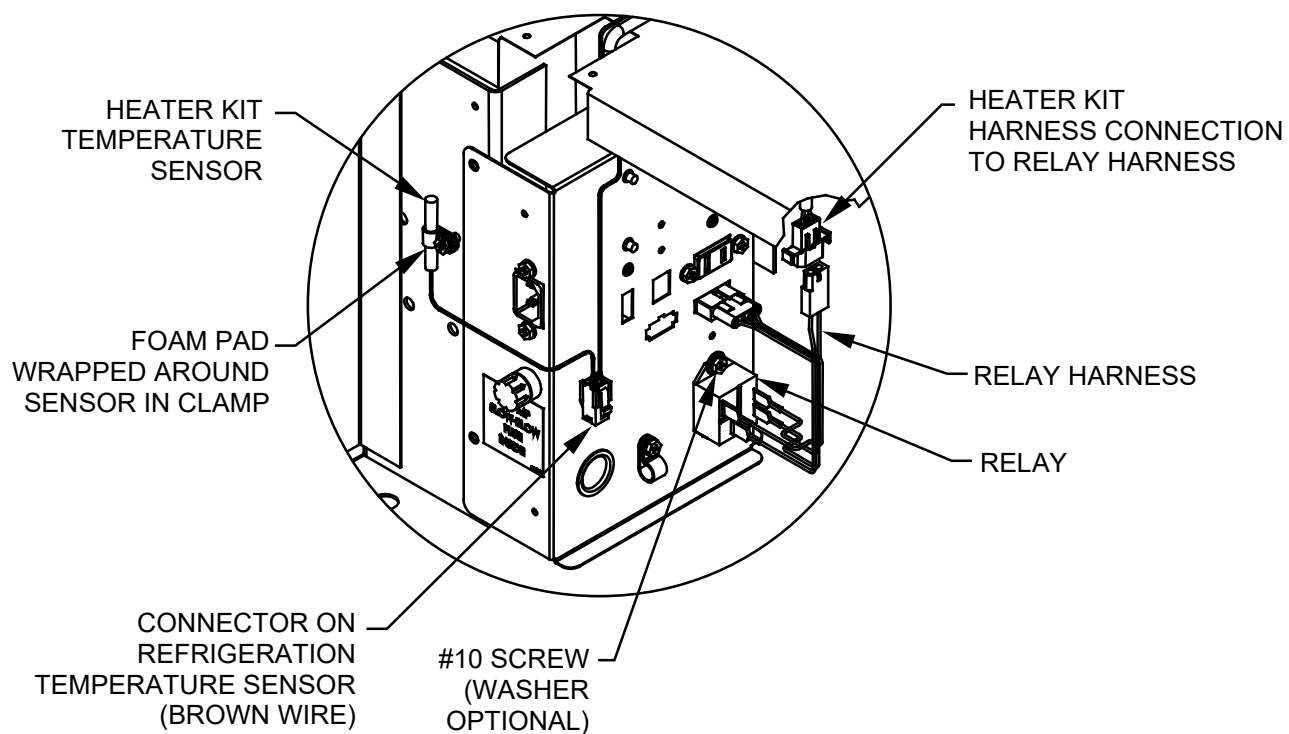

FIGURE 3
- Step #5** Connect the heater kit temperature sensor (1154575) to the existing temperature harness by plugging the two terminals into the molex connector on the existing harness. See Figure 3.
- Step #6** Attach the sensor to the machine using the clamp and the remaining #10 screw, as shown in Figure 3.
- Step #7** Attach the heater relay, as shown in figure 3, using a #10 screw (V802047) to the power distribution box. Depending on date of manufacture, you may need the #10 washer, provided in the kit. You may only be able to attach 1 screw to attach the relay.
- Step #8** Plug the relay harness into the relay and the the open molex on the power distribution box. See Figure 3. The connectors to the relay can only go on one way, small connectors to small tabs and larger connectors to large tabs.
- Step #9** Connect the remaining molex on the relay harness to the heater harness. See Figure 3.